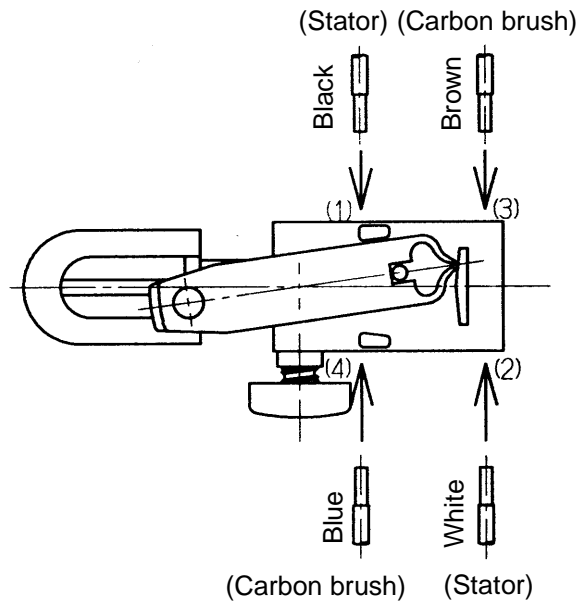

Fig. 16
(1) Wiring of reversing switch
Insert the lead wire (black) coming from the stator into the terminal (1) of the reversing switch, and the lead wire (white) into the terminal (2) as shown in Fig. 16. Insert the lead wire (brown) coming from the carbon brush into the terminal (3) and the lead wire (blue) into the terminal (4). After the insertion, pull each lead wire slightly to check the lead wires do not come off. To disconnect the lead wires, insert a small slotted-head screwdriver into the windows near the terminals and pull out the lead wires.